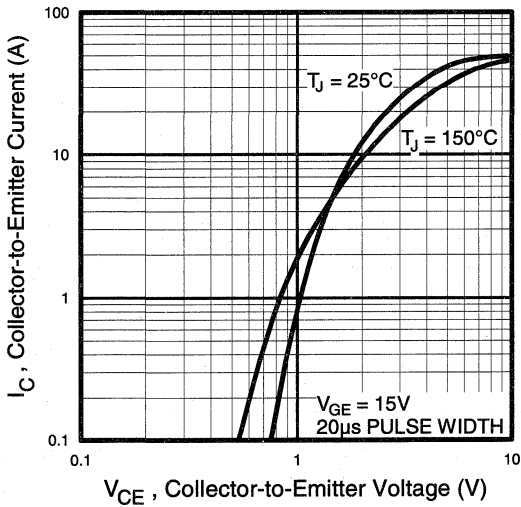

Fig. 2 - Typical Output Characteristics
① Repetitive rating; V_{GE}=20V, pulse width limited by max. junction temperature. (See fig. 2)